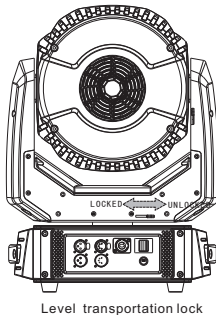
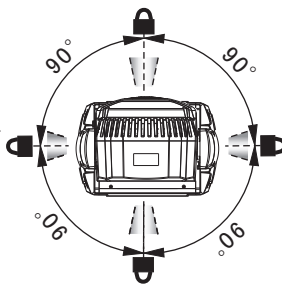

Fig.1
Fig.2
- 2.lock arms as figure.- Fig.1(PAN Mechanism Lock and Release (every 90°) - Fig.2)